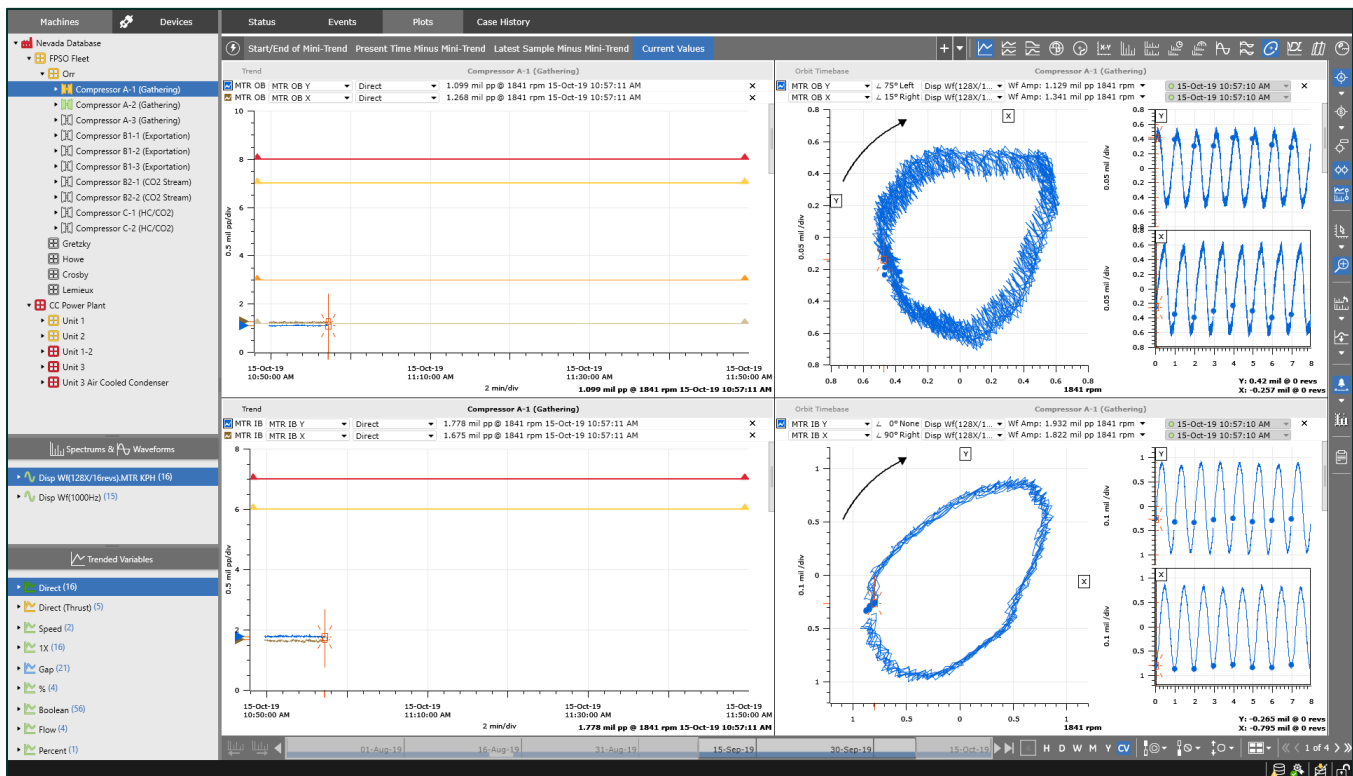

Figure 57: "Current Values"
- Current Values, the Plot Set is loaded in the Current Values mode (Figure 57)